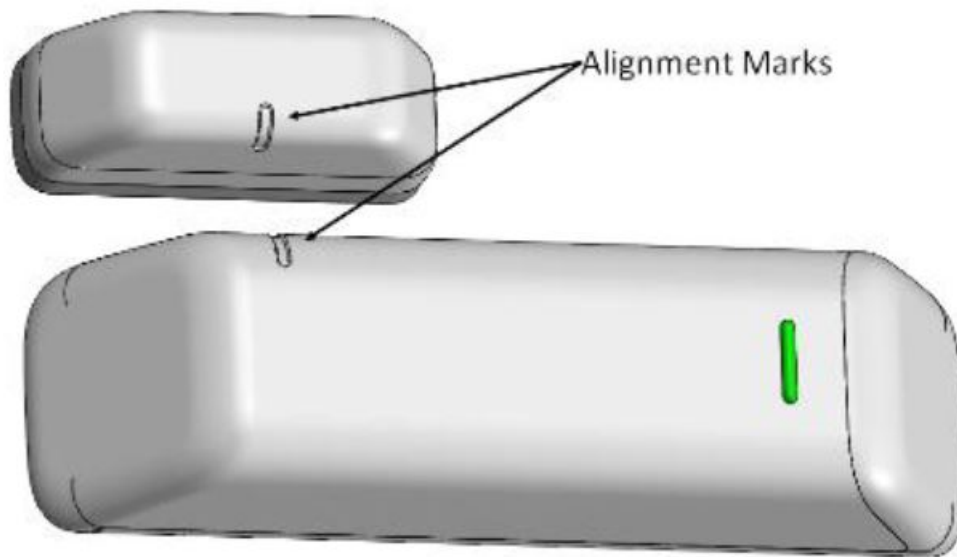

Figure 2
2. Please make sure that the sensor and magnet is located less than 0.25 inch from each other. For optimal performance, it is highly recommended to install the Door/Window sensor on the fixed frame and the magnet on the moving part of the door/window. Place the sensor near the top of the door/window close to the opening edge of the door/window. When mounting the sensor and magnet ensure the marks on the sensor and magnet are aligned (Figure 2). The LED on the sensor should be positioned at the top when possible. Ensure you have space to slide open the battery door when positioning the sensor.